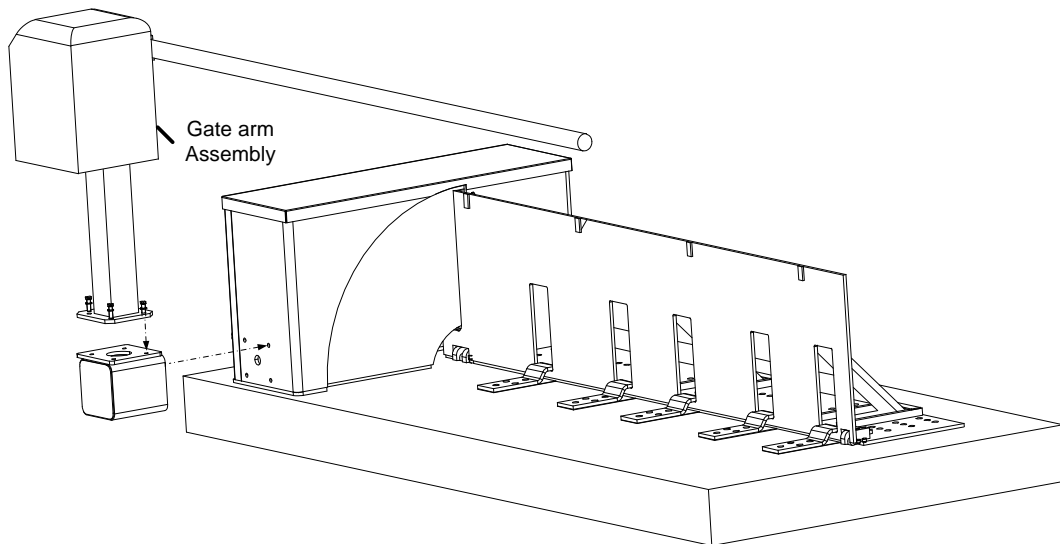

Figure 6 Gate Arm Installation
8. Install gate arm assembly kit to side of buttress as shown in figure 6. Mounting bolts are installed from inside the buttress.